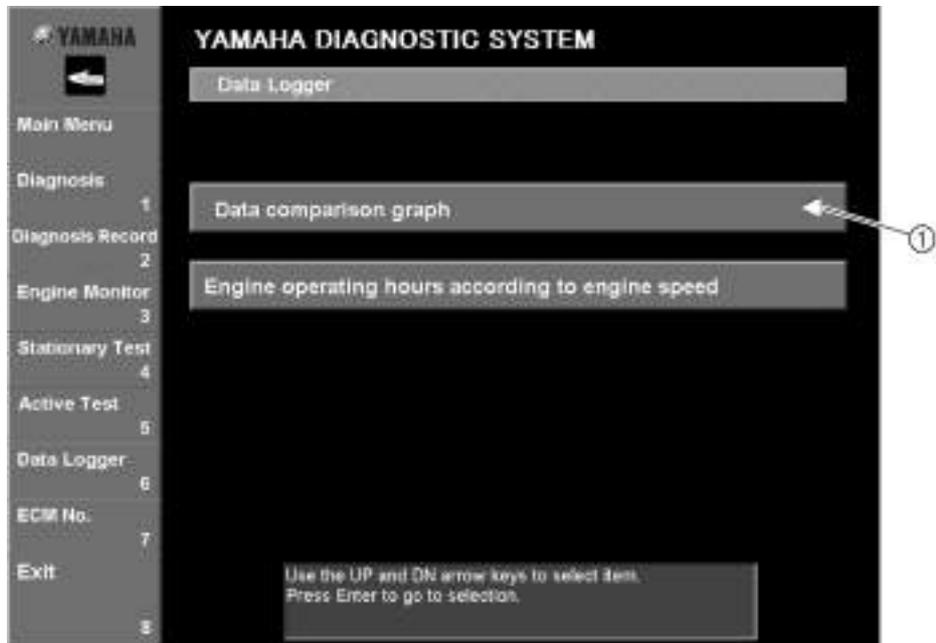

Fig. 59
1. Select the desired item by either clicking it or pressing the up or down arrow keys on your keyboard. (Fig. 59)
2. Press the Enter key on your keyboard. The window of the selected item is displayed. (Fig. 59)